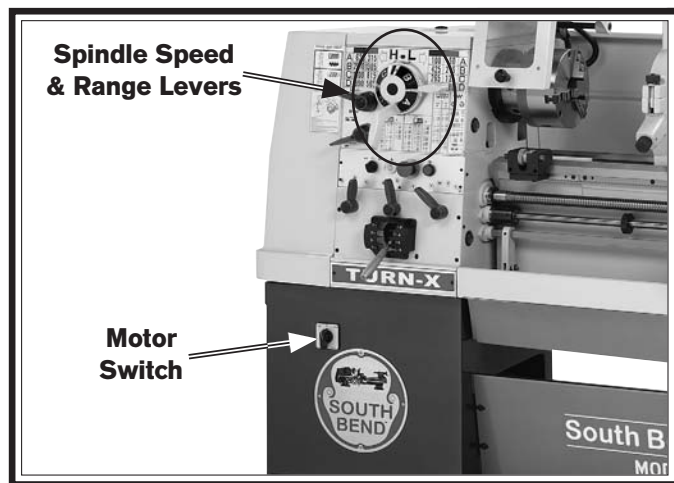

Figure 67. Spindle speed controls.
Selecting one of the 16 spindle speeds available is a combination of configuring the two-speed motor switch, the spindle range lever, and the spindle speed lever shown in **Figure 67**.
2. Turn the motor switch (see **Figure 67**) to the low (left) position.